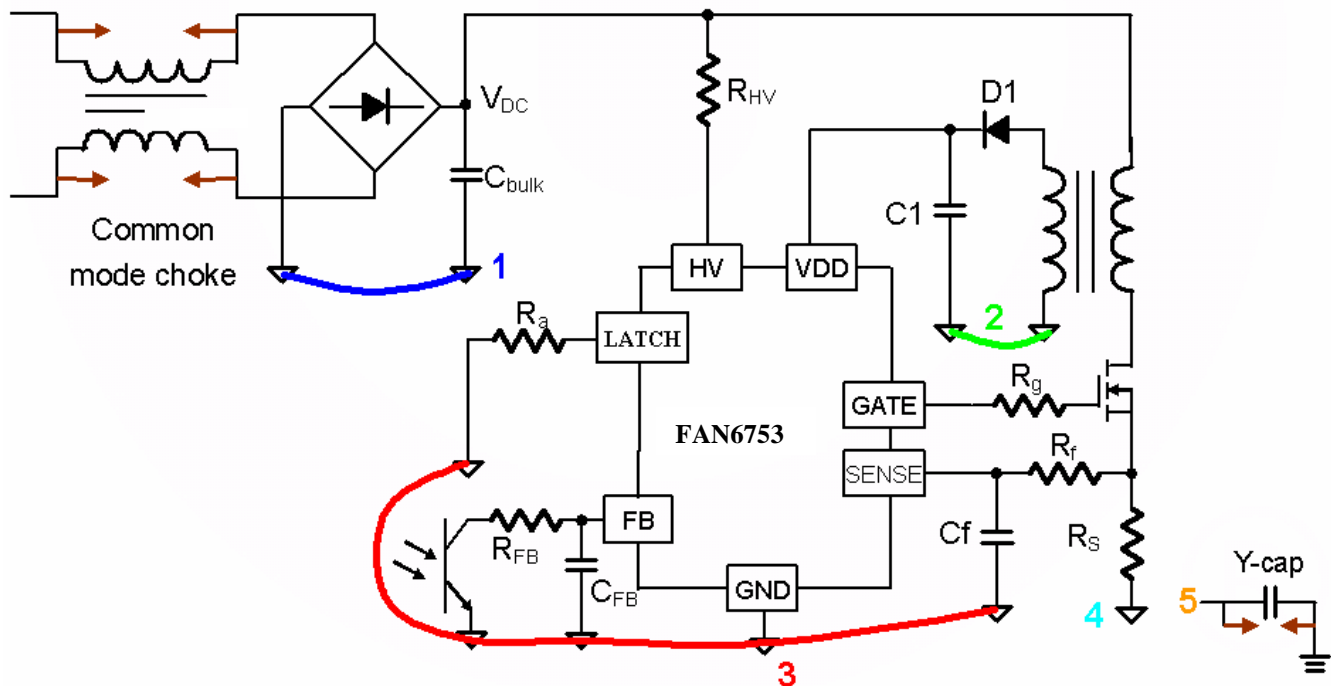

Figure 14. Layout Considerations
- The high-frequency current loop is found in the loop C_{bulk} – Transformer – MOSFET – R_S – C_{bulk} in Figure 14. The area enclosed by this current loop should be as small as possible. Keep the traces (especially 4→1) short, direct, and wide. High-voltage drain traces related to the MOSFET and RCD snubber should be kept far from control circuits to prevent unnecessary interference. If a heatsink is used for the MOSFET, grounding the heatsink is recommended.
- As indicated by 3 in Figure 14, the control circuits' ground should be connected first, then to other circuitry.
- As indicated by 2 in Figure 14, the area enclosed by the transformer auxiliary winding, D_1 , and C_1 should also be kept small. Place C_1 close to FAN6753 for good decoupling.